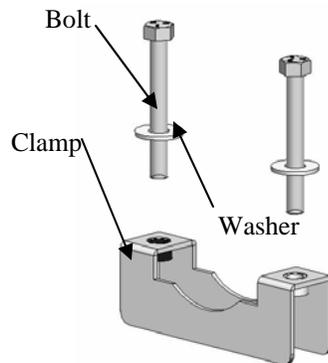
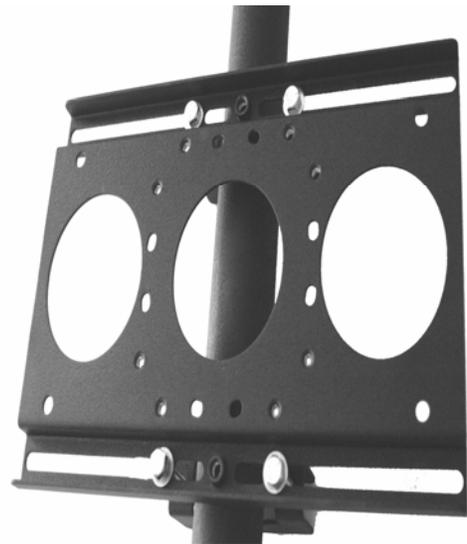

Figure 1. TPK-2
Figure 2. TPK-2 Pole Mount Example
1. Place clamp (see Figure 1) on truss or pole (see Figure 2).